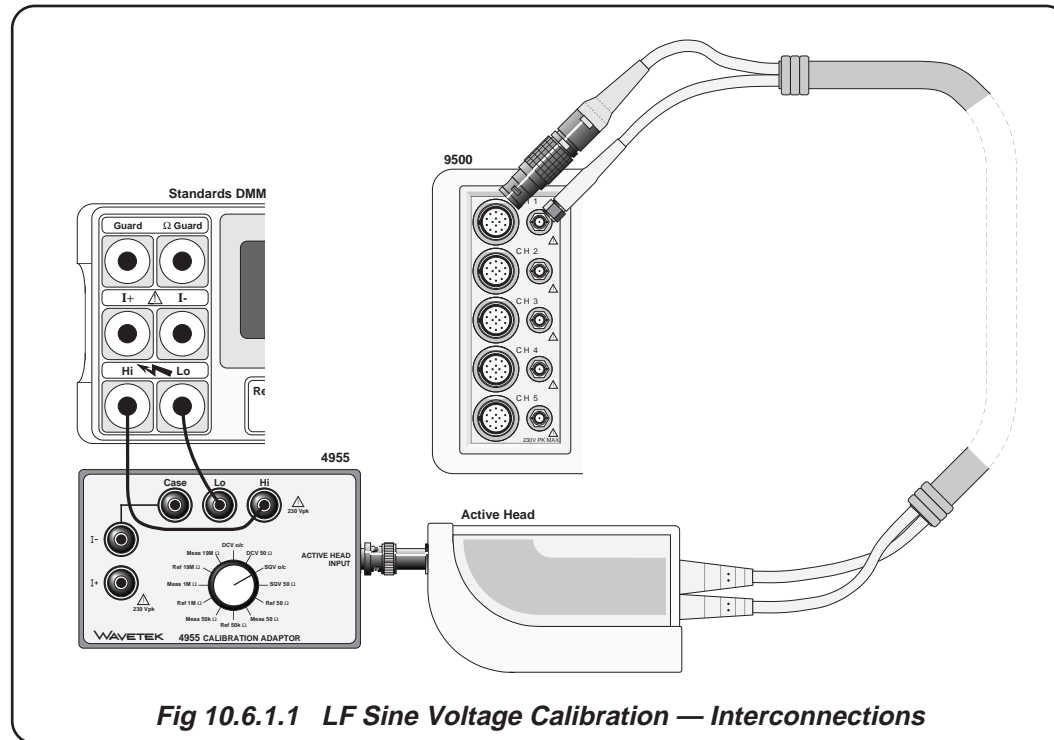

Fig 10.6.1.1 LF Sine Voltage Calibration — Interconnections
1. **Connections** Ensure that the 9500B is connected to the DMM as shown in *Fig. 10.6.1.1* overleaf, or via a similar BNC or PC3.5 to 4mm adaptor, and that both instruments are powered on and warmed up.